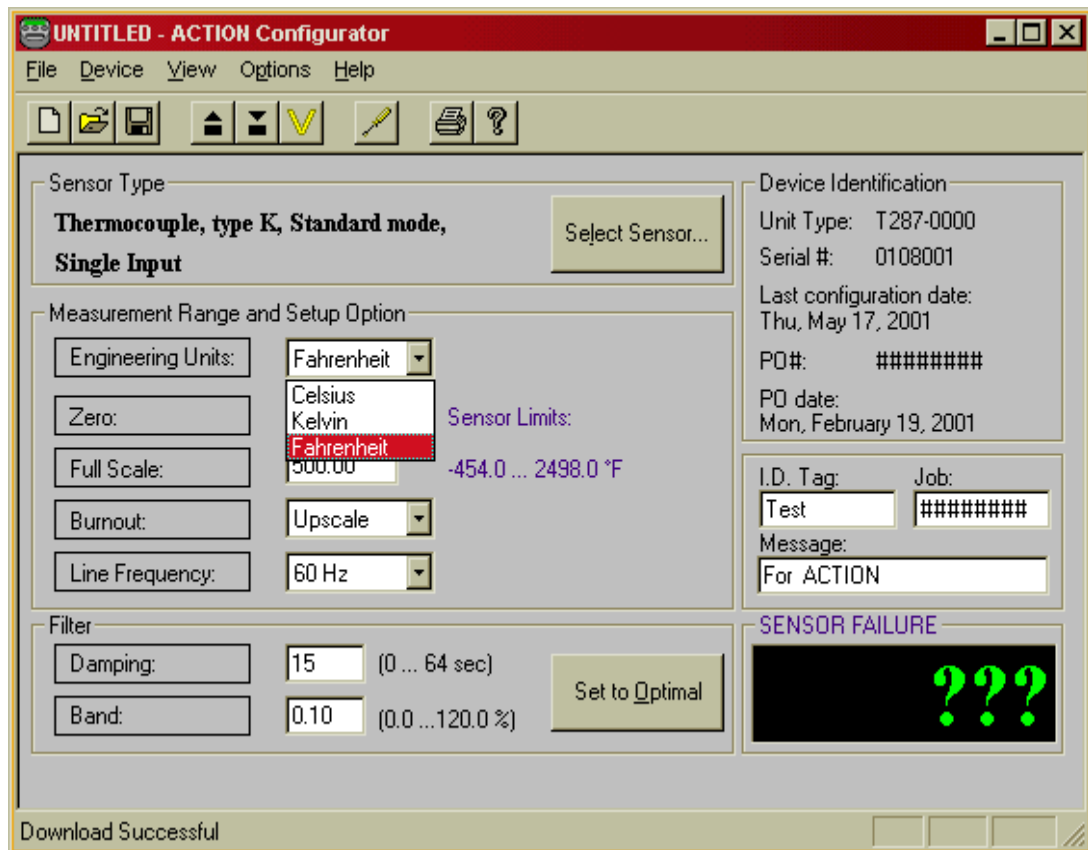

Figure 7.
- Next select the **"Engineering Units"** when appropriate from a pull-down menu. The choices will be °F, °C or °K. (See Figure 7)